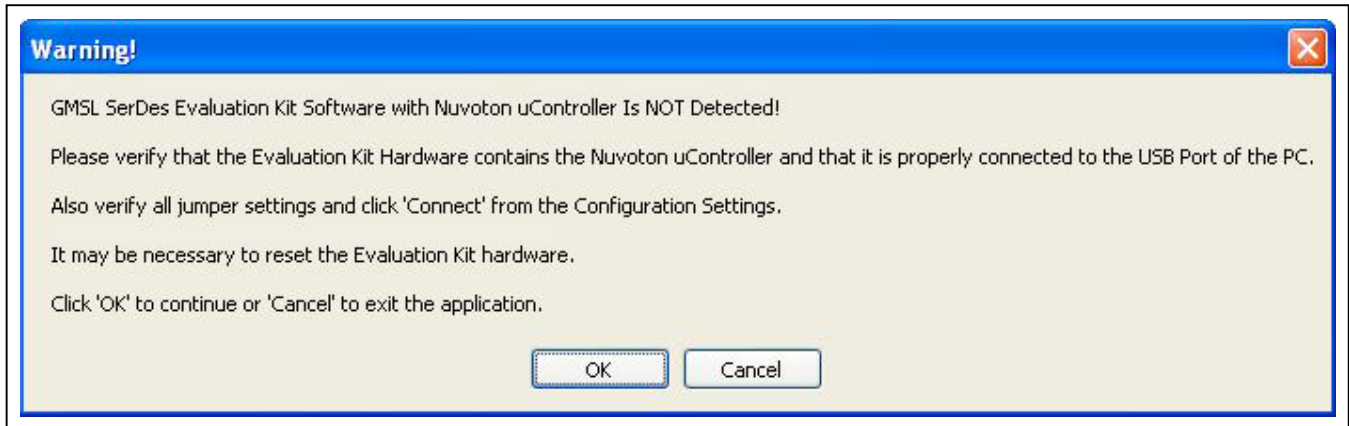

Figure 2. MAXSerDesEV-N EV Kit Software: Warning! (reporting EV Kit with Nuvoton Microcontroller is NOT Detected!)
- 14) A window will pop open (Figure 3) indicating that all control-channel-related jumpers along with other jumpers have been positioned correctly. If the GUI does not find a valid EV kit board (an operating evaluation board with a Nuvoton microcontroller), a window similar to Figure 2 will appear. Press **OK** to continue and start the GUI or press **Cancel** to terminate the application. Go to the *Troubleshooting* section at the end of this document and fix the problem before continuing.